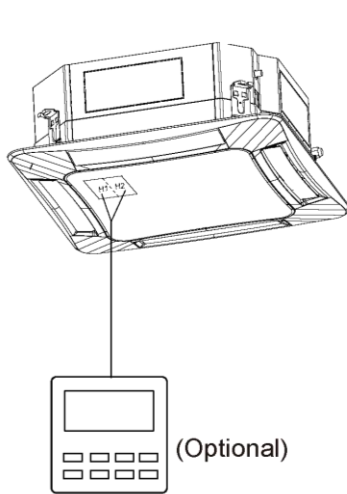
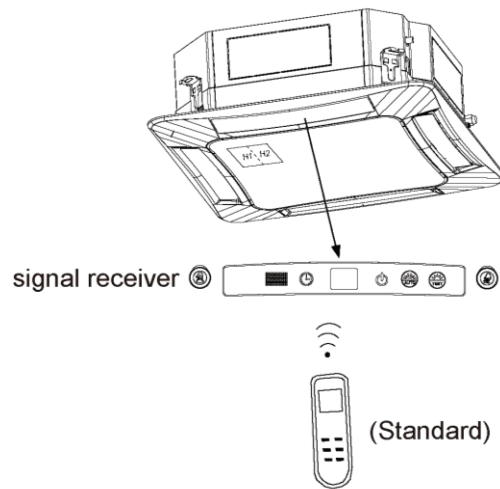

Fig. 5.4.1
Fig. 5.4.2
- 1) Wired controller (standard) is shown as Fig.5.4.1, wireless controller (optional) is shown as Fig.5.4.2, signal receiver is provided with panel as standard accessory.